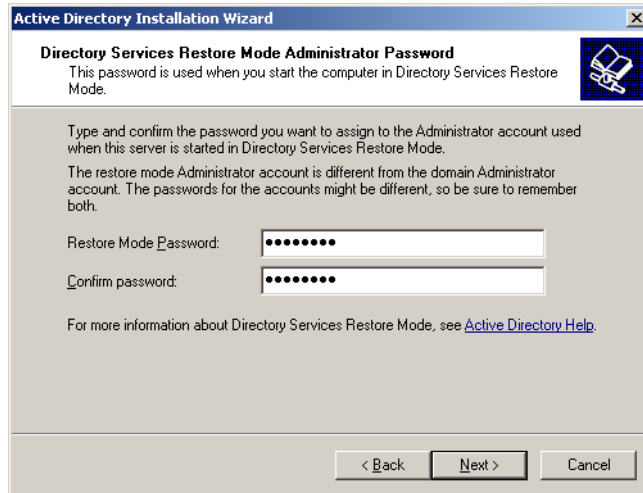

Figure D-36 Directory services restore mode administrative password
19. Type in the password for use by the Administrator account to be used when this server is started Directory Services Restore Mode. Enter the password in the **Restore Mode Password** and **Confirm** password dialog boxes as shown in figure D-36. Click the **Next** button when ready to proceed.